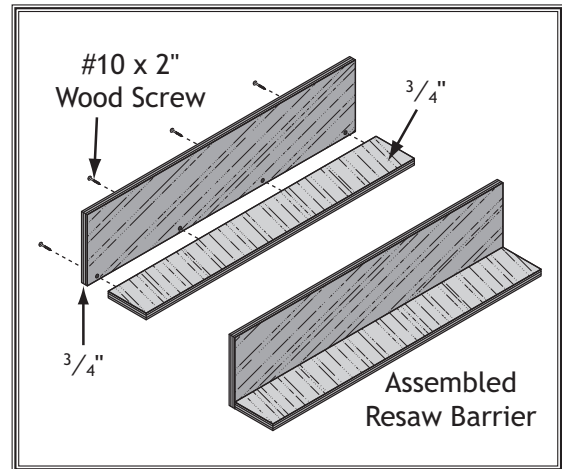

Figure 66. Clamping the resawing barrier.
3. Glue the end of the 3" board, then clamp the boards at a 90° angle with the larger board in the vertical position, as shown in **Figure 66**, fasten together with the wood screws.